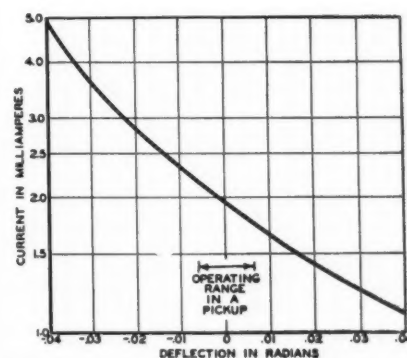

Fig. 2. Experimentally determined current deflection characteristic of a diode mechano-electronic transducer.
A typical experimental current deflection characteristic for a diode with constant plate voltage is shown in Fig. 2. Unlike the conventional vacuum tube, in which the operation extends over the major portion of the tolerable operating range, the mechano-electronic transducer operates over a small portion of the tolerable operating range when employed in phonograph pickups and microphones. The maximum deflection, in actual use in a phonograph pickup or microphone, is about .07 radian. For this condition the higher order components in Eq. (1) are negligible and the plate current for a constant plate potential may be expressed by